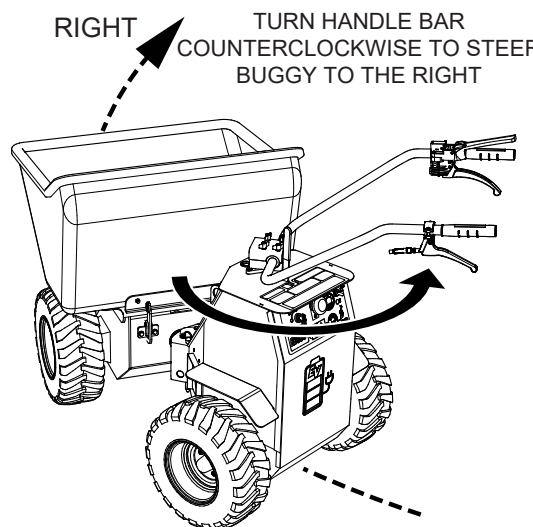

Figure 11. Steering the Buggy (CCW-Right)
2. To turn right (Figure 11) when traveling in the forward direction, turn the handle bar in the counterclockwise direction.